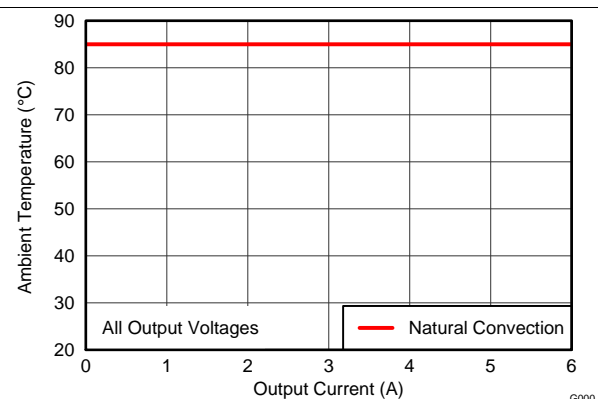

Figure 9. Safe Operating Area
- (11) The temperature derating curves represent the conditions at which internal components are at or below the manufacturer's maximum operating temperatures. Derating limits apply to devices soldered directly to a 100 mm x 100 mm double-sided PCB with 1 oz. copper. Applies to Figure 9.